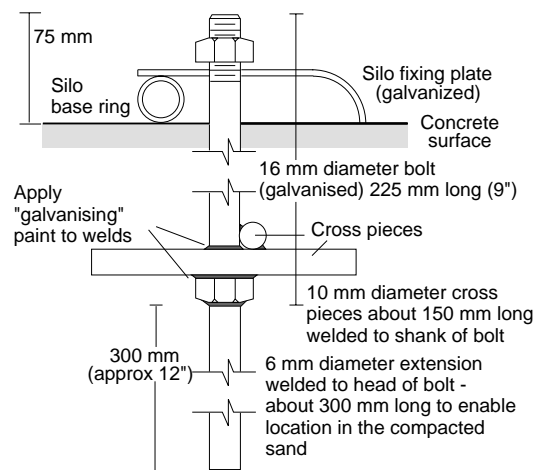

Figure 2. Modification of standard bolt for use
- Set four 16 mm bolts in the concrete so the centre line of the bolts is just inside the silo base ring, and the bolts are sticking up about 75 mm. See Figure 2 to modify to a standard bolt.